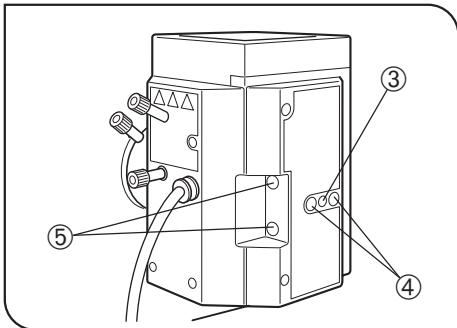

Fig. 34
6. Rotate the lamp centering knob ② to move the arc image on the center of the left (right) half of the field of view. (Fig. B)
7. Fit the tip of the Allen screwdriver into the mirror focus adjustment screw ③ (Fig. 34) on the rear of the lamp housing, and rotate the screw to focus on the mirror arc image. (Fig. C)
8. Rotate the lamp centering knob ② so that the arc image and mirror arc image are overlapped. (Fig. D)
- ◎During observation, rotate the collector lens focus adjustment knob ① as required to render the observed field of view uniform.
- ◎If the collector lens focus adjustment knob ① is located too far to be manipulated, fit the U-CLA extension handle (optional) shown below into the knob ① and manipulate them together.